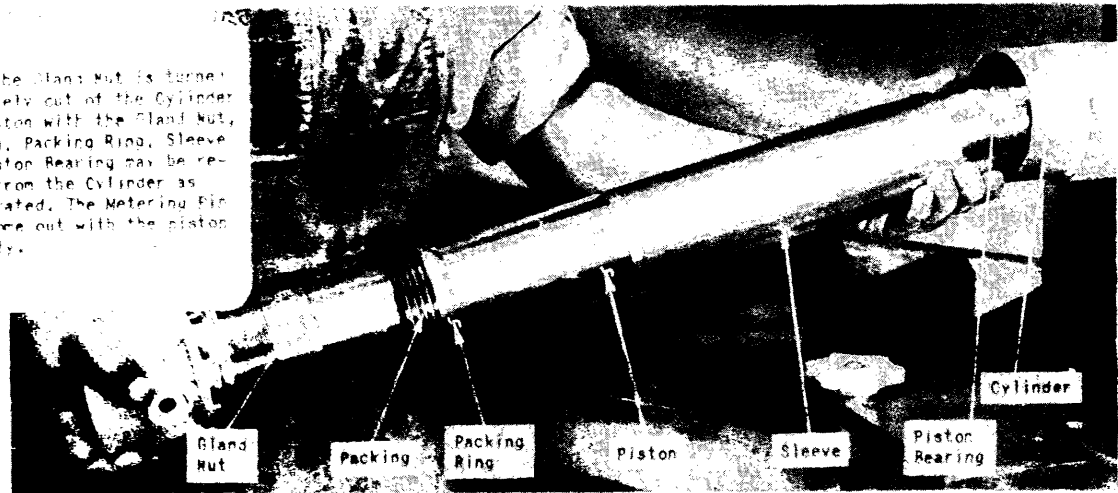

Figure 162 - Removing Piston Assembly from Cylinder
(11) The piston assembly may now be pulled from the end of the cylinder. The piston assembly is composed of the gland nut, packing, and packing rings, piston sleeve, piston bearing, and metering pin. (See figure 162.)
(21) Slide the piston into the cylinder secured in a wooden block clamp (figure 162) and tighten the gland